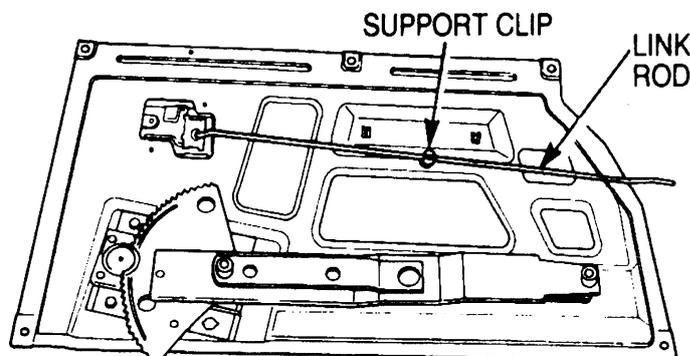

Figure 222 Window Regulator Installation
- o. Press the link rod into the plastic support clip (Figure 222).